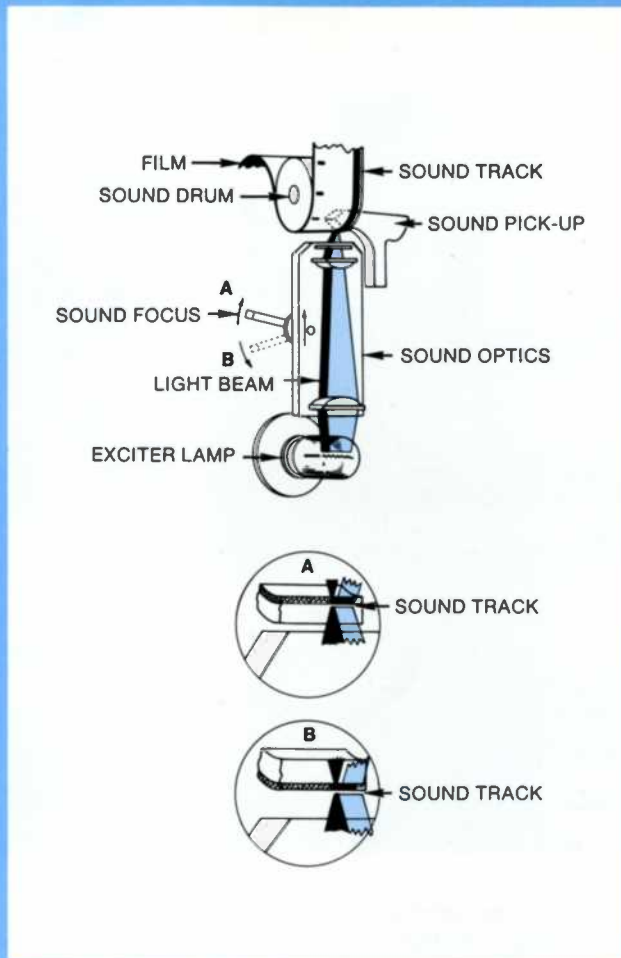

FIGURE 7
Figure 7 illustrates the proper position of the beam for each of the two types of film: one threaded with the emulsion side on top and away from the sound optics (A) and the other with the emulsion side on the bottom and toward the sound optics (B).